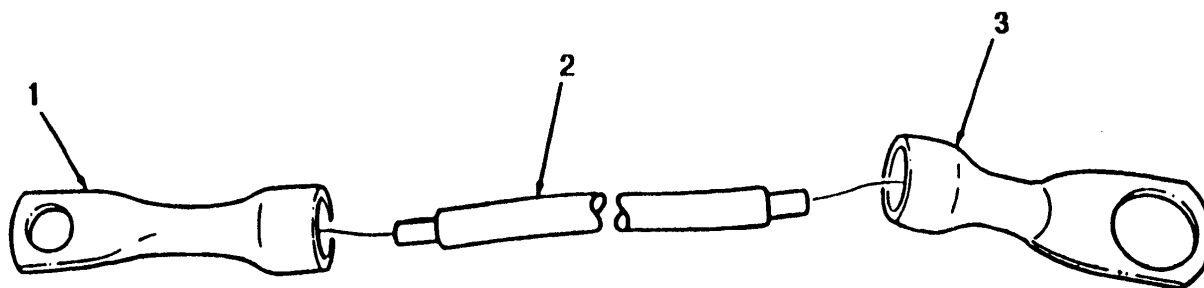

FIGURE 3-7
1. Install NSN 5940-00-705-671 1 terminal (3) to 6-inch piece of NSN 6145-00-152-6499 wire (2). (see figure 3-7)
2. Install NSN 5940-00-705-6708 terminal (1) to NSN 6145-00-152-6499 wire (2).